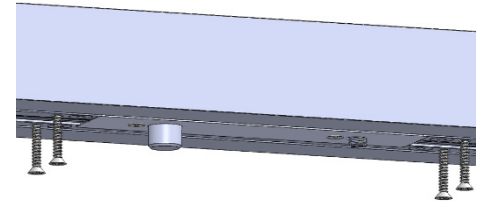

Figure 7:
3. Secure Top pivot to header with #10 screw min. 4" long (not by Fleetwood). See Figure 7 for illustration.